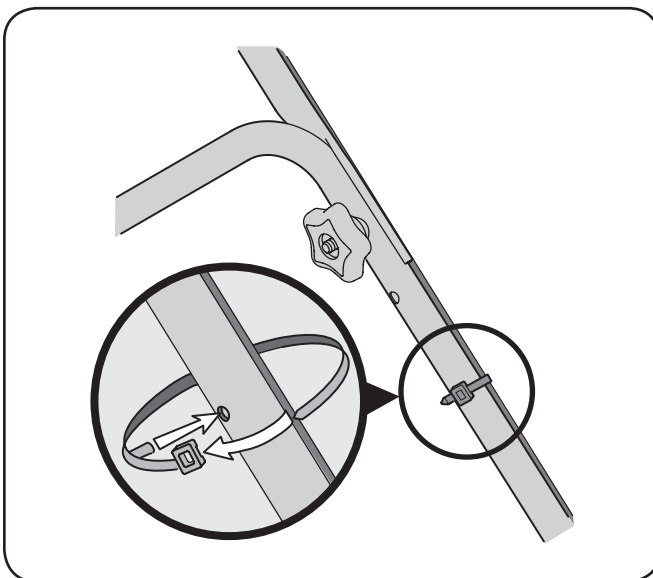

**Figure 3-3**
3. If satisfied with height of handle, tighten wing nuts at the ends of the lower handle shown in Fig. 3-3. For convenience of operating, you may adjust the handle height by removing the wing nuts and removing the lower handle.
- a. Position each handle bracket stud into the top hole in the lower handle. See Fig. 3-3 inset.